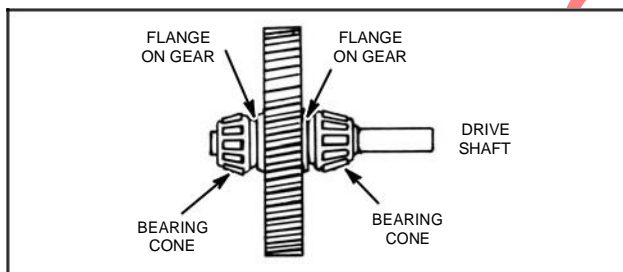

Fig. 125
2. If new drive shaft is equipped with bearing cones, remove bearing cones from old drive shaft. Heat bearing cones in oil so they will expand and slip onto new shaft. Be sure cone is against flange, Fig. 125.